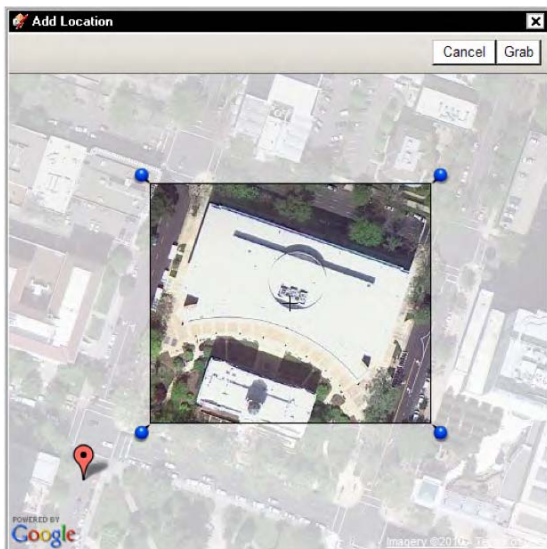

Figure 9-23. Cropping the image with the four blue pins
2. Zoom into the location of the object you plan to model, and click Select Region. A square will appear with four blue pins on each corner, as shown in Figure 9-23. Select each corner, and try to get a close-up of the image. Then select Grab in the upper right of the dialog box.